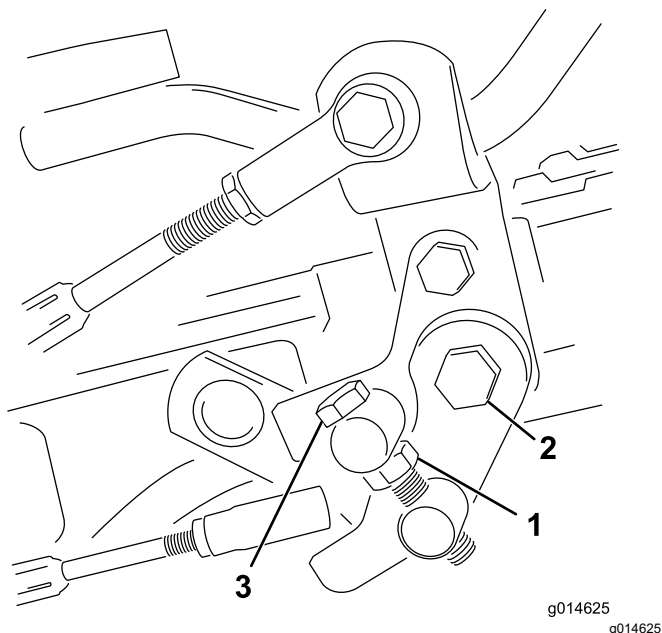

Figure 40
1. Loosen the jam nut on the trunnion bolt (Figure 40).
4. Tighten the jam nut on the trunnion bolt and the nut on the pedal pivot to lock the adjustment (Figure 40). Check the adjustment and adjust as required.